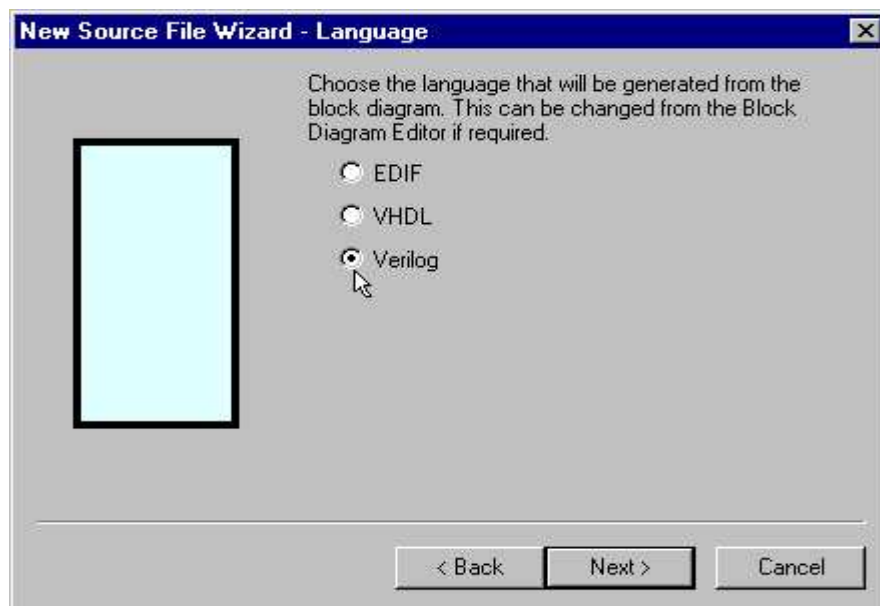

Figure 10
4. Select the “Verilog” option, and click the Next button (Figure 10).